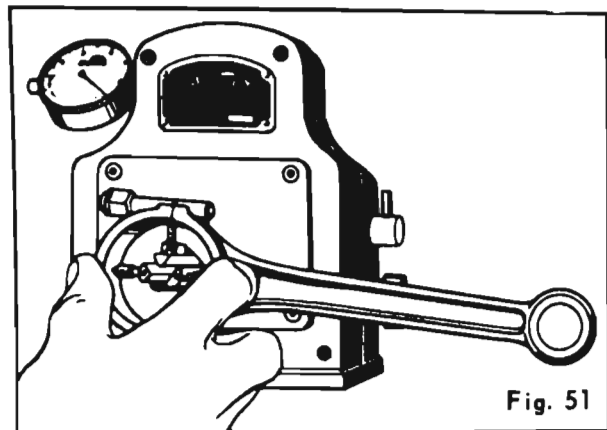

Fig. 51
7. Check rod bore to determine stock to be removed. This is done by using the Sunnen AG-300 Precision Gage. (Pages 5, 6, 10 and 11). (Fig. 51). With side of con rod against face of gage, exert a very little pressure on the rod downward and toward the left to obtain accurate measurement.